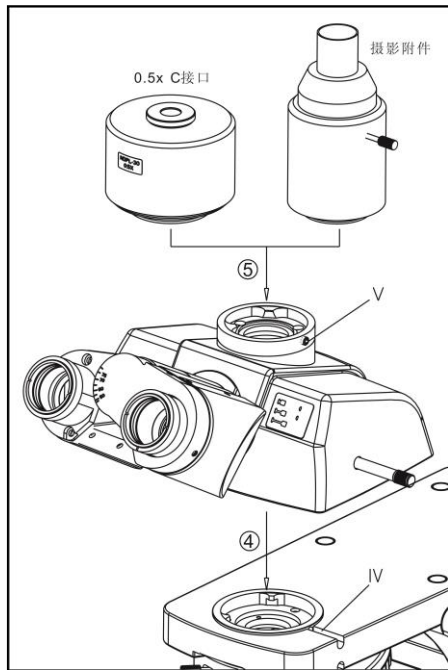

Fig 6
4-2-4 Install Camera Lens And Photo tube/0.5X C-mount (fig 6)
Install camera lens into the microscope groove according to the path ④ shown in the figure 6, then use hex wrench tight up the bolt shown as IV and fix the camera lens.
Accord the path of ⑤ shown in figure 6 to insert the trinocular viewing unit into the microscope head. Then use the hex wrench screw the fixed bolt shown as V .